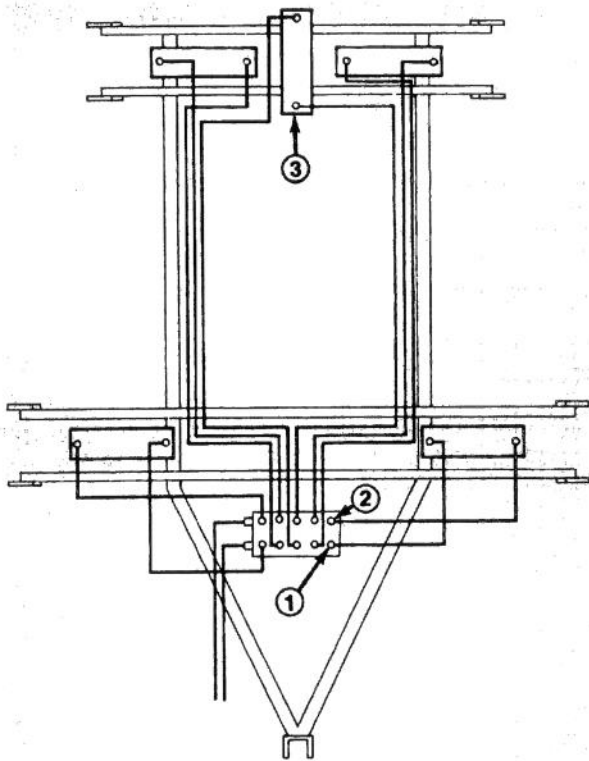

Figure 34
4. Disconnect hydraulic hoses connected to front row of control valve, Row "A" (Fig. 34). Drain each hose into drain pan and reconnect to valve.
5. Disconnect hydraulic hoses connected to back row of control valve, Row "B" (Fig. 34). Drain each line and cylinder by carefully pulling down lift arms until all fluid is pumped out of hoses and cylinders and into drain pan. Reconnect hoses to control valve.